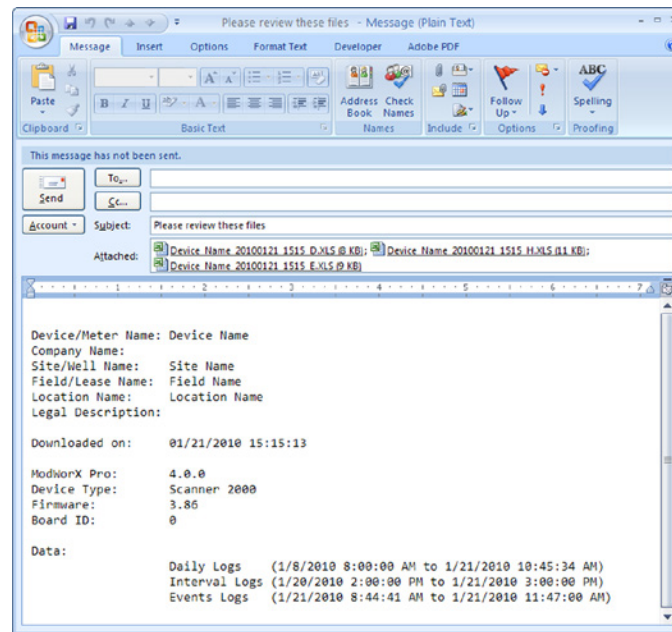

Figure 14.32
3. Click **OK** to export the data to the file. The file will automatically be attached to an email window (Figure 14.32).